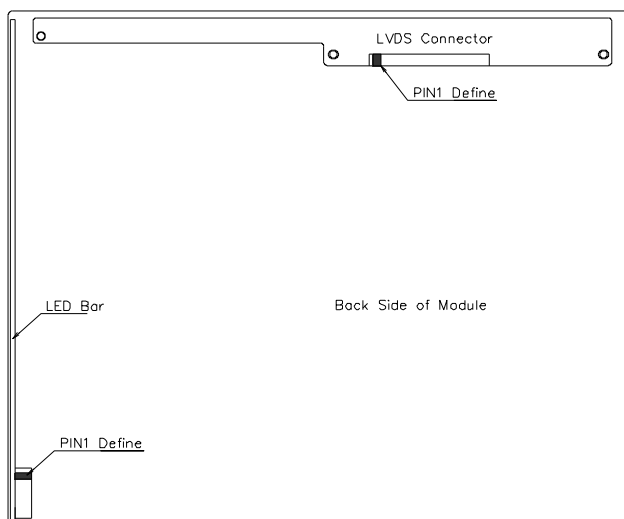

Figure2. Back Side of Module
- Center Luminance of white is defined as the LCD surface. Luminance shall be measured with all pixels in the view field set first to white. This measurement shall be taken at the locations shown in FIGURE 2 for a total of the measurements per display.
(See FIGURE 2 shown in Appendix).